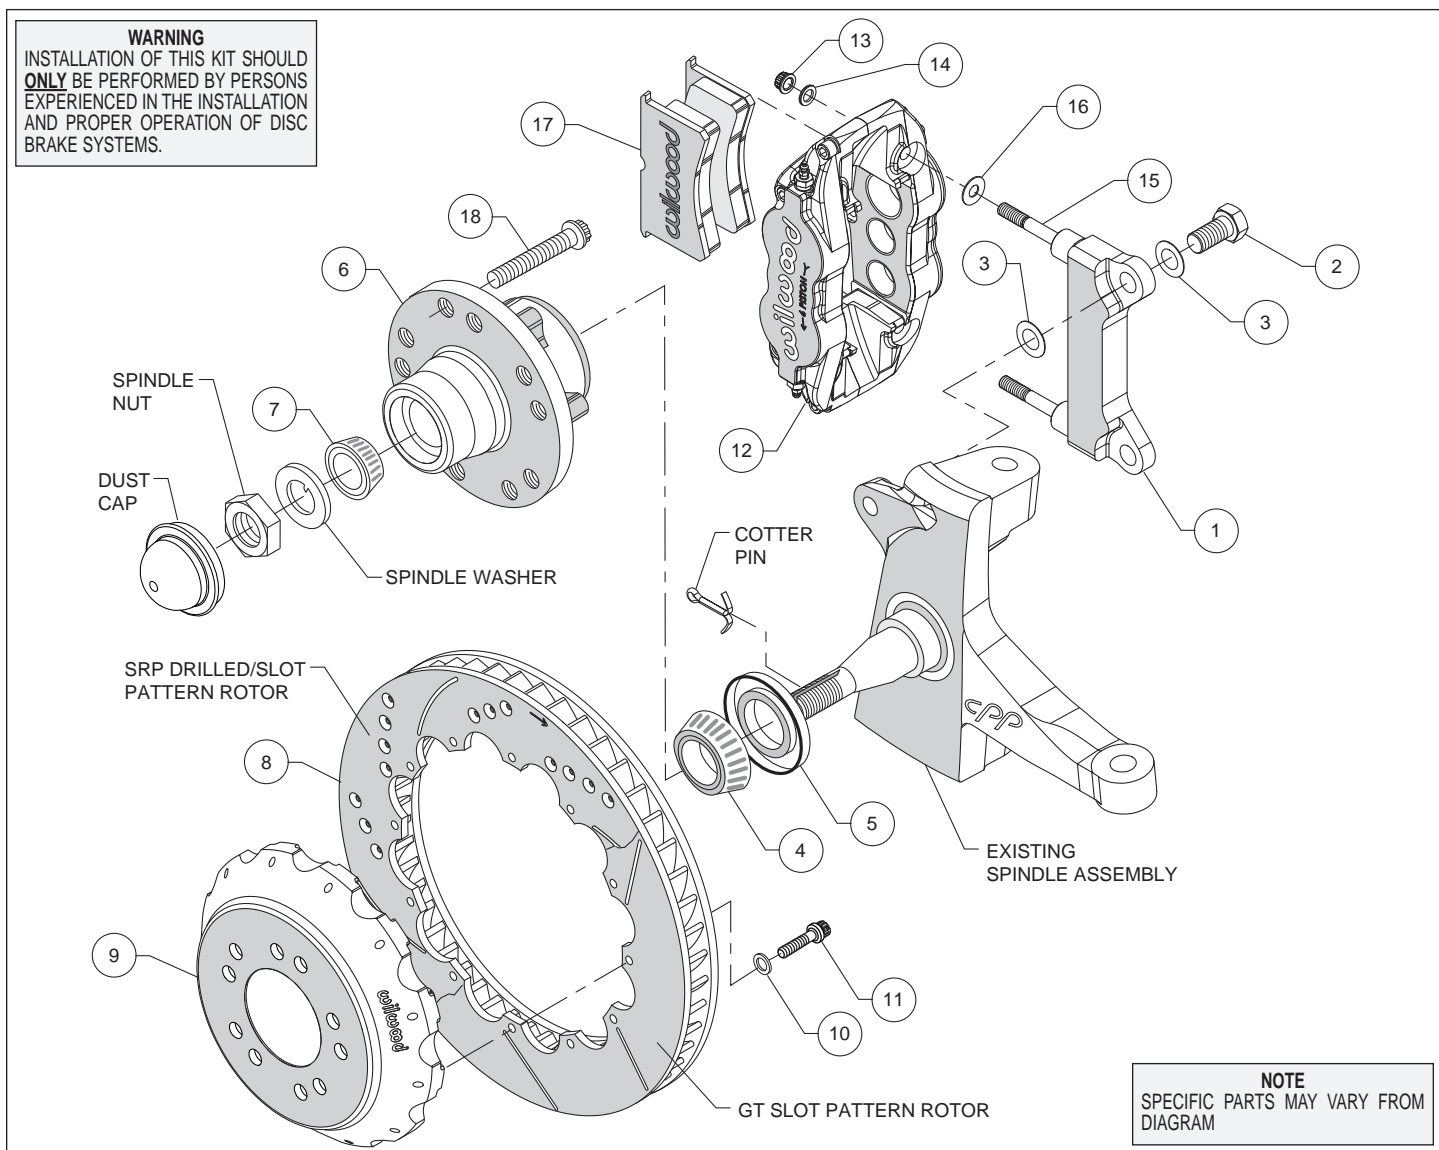
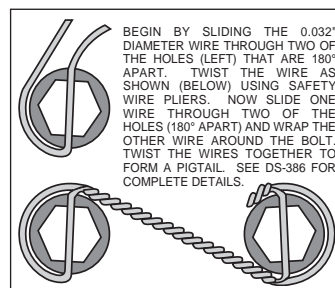

Figure 1. Typical Installation Configuration
Figure 3. Safety Wire Diagram
### Assembly Instructions (numbers in parenthesis refer to the parts list and Figure 1 on the preceding pages):
- The caliper mount bracket (1) should initially be installed with clean, dry threads on the mounting bolts. Orient the bracket, as shown in Figure 1, and install using bolt (2) and washer (3). Initially place one .024" thick shim (3) on each bolt between the bracket and upright, Figure 1. Temporarily tighten the mounting bolts. **NOTE:** The bracket must fit squarely against the mount bosses on the upright. Inspect for interference from casting irregularities, machining ridges, burrs, etc. Later, after the caliper alignment has been checked, the mount bolts will be secured using red *Loctite*® 271.
- Install wheel studs (18) into the hub (6), Photo 1. Torque to 77 ft-lb. **NOTE:** There are two five lug patterns in the hub (5 x 4.75 and 5 x 5.00). Ensure the correct hub stud pattern is being used to fit the wheel application.
- Orient the rotor (8) and the hat (9) as shown in Figure 1 and Photo 4. Attach rotor to hat using bolts (11) and washers (10). Using an alternating sequence, apply red *Loctite*® 271 to the threads, and torque to 155 in-lbs. For an added measure of security, the bolts may be safety wired using standard 0.032 inch diameter stainless steel safety wire as shown in Figure 3. Refer to Wilwood's data sheet DS-386 (available at [www.wilwood.com/Pdf/DataSheets/ds386.pdf](http://www.wilwood.com/Pdf/DataSheets/ds386.pdf)) for complete safety wire installation instructions.
- Slide the hat/rotor assembly (8/9) onto the hub (6). **NOTE:** The hat must fit flush against the hub face or excessive rotor run out may result.
- NOTE:** This kit contains distinct right and left hand calipers that must be mounted in a specific direction, as described below. Lubricate the caliper mounting studs (15) with lightweight oil. Initially place one .035" thick shim (16) on each stud as shown in Figure 1 and Photo 6. Mount the caliper (12) onto the bracket (1)
using lock nuts (13) and washers (14), Figure 1. Ensure that the caliper is mounted so that the largest pistons are at the rotor exit end of the caliper, in relation to the direction of rotor rotation. Temporarily tighten the lock nuts and view the rotor through the top opening of the caliper. The rotor should be centered in the caliper, Photo 7. If not, adjust by adding or subtracting shims (3) between the bracket and the upright. Always use the same amount of shims on each of the two mounting bolts. Once the caliper alignment is correct, remove the bracket mounting bolts one at a time, apply red *Loctite*® 271 to the threads, and torque to 120 ft-lb.